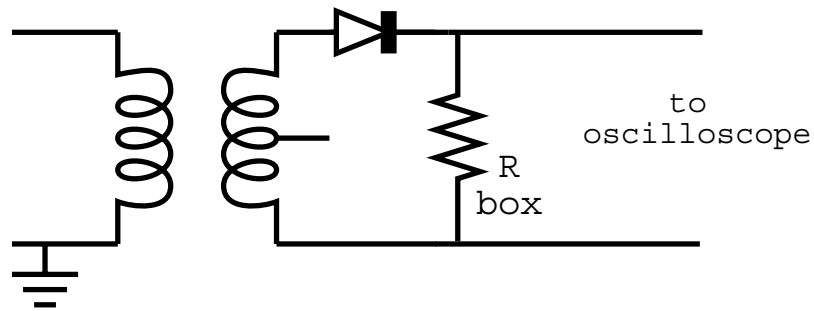
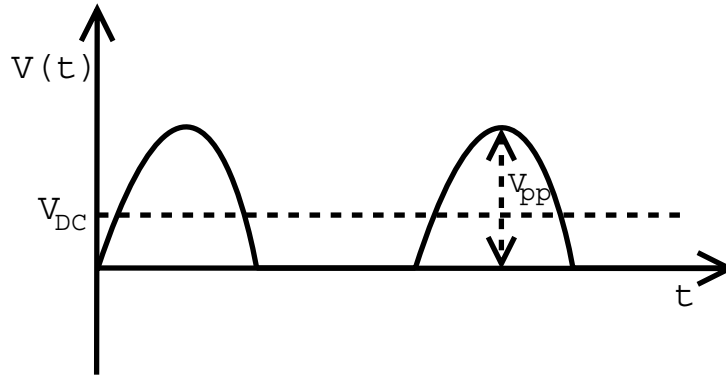

Figure 19: Circuit for periodic signal with DC offset
Figure 20: Periodic signal with DC offset
One means of obtaining a periodic signal with a DC voltage is to include a diode as shown in Figure 19. When the input sinusoid is negative, the diode allows no current to flow so that the output voltage is as shown in Figure 20. The peak-to-peak amplitude is easily measured with the oscilloscope and the DC voltage can be measured either with the DMM or the oscilloscope. The RMS value is dependent on the shape of the waveform which in turn depends on the voltage across the diode when current is flowing. A useful formula is
7. Set up the circuit shown in Fig.19 with a resistance of about 10 k Ω .
8. Use the oscilloscope's MEASURE function to measure Pk-Pk, Mean and Cyc RMS. The first two values should be the peak-to-peak amplitude and the DC value, as shown in Fig.20. The third value is the effective voltage, which is no longer equal to the RMS value because the DC voltage is non-zero. Make sure that your oscilloscope is set to DC coupling.